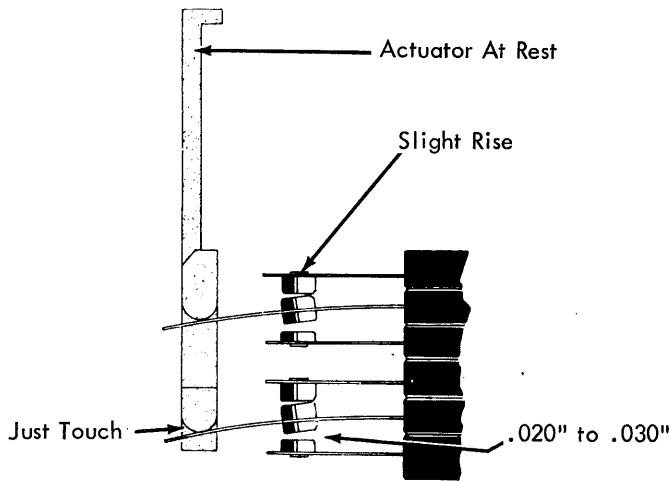

FIGURE 42. Contact Straps
3. Contact Straps (Fig. 42) - Form (actuators at rest) as required to satisfy the following conditions.